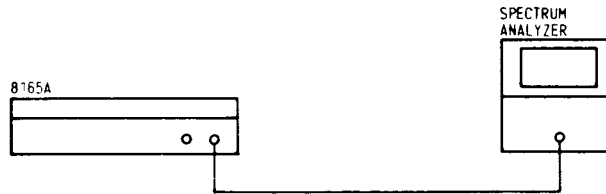

Figure 4-3. Test Setup for Sine Characteristics
1. Connect the equipment as shown in Figure 4-3.